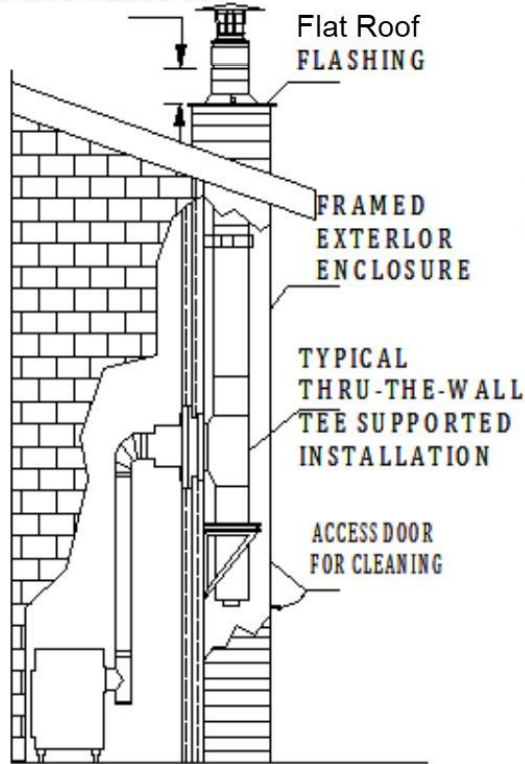

Fig 20
3. Install Square Ceiling Support Box: Slip the Square Ceiling Support Box into the framed opening so the square portion projects at least 2 inches below the finished ceiling and rafters, and extends above the ceiling to framing or decking materials that it can be nailed to. Level the Support Box, and slit the corners to the roofline where they extend beyond it. Secure using (3) 8-penny nails, or (3) 1-1/2" #8 screws, per side (Fig 20).
Tee-Supported installations are used when passing through a wall to an outside chimney. The Tee Support can hold a maximum of 50 feet of AF-HST chimney. The required parts and general configuration are as shown in Figures 20 & 21.